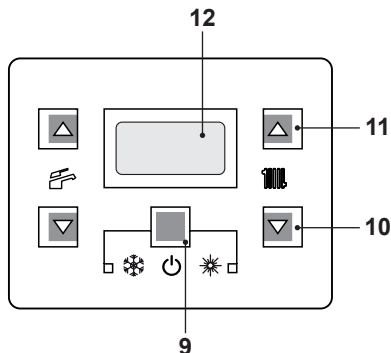
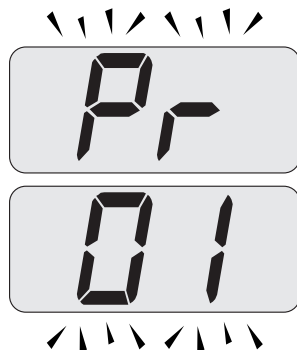
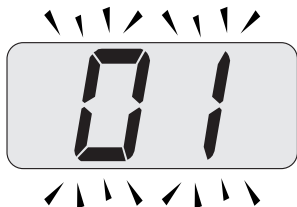

Fig. 8.31
Fig. 8.32
Fig. 8.33
- Enter the "programming mode" by sequentially pressing and holding in keys, 9 - 10 and then 11 (Fig. 8.31) for 10 seconds until the letters **Pr** that alternate with code **01** are displayed on the LCD display, indicating that "parameter 01" (Fig. 8.32) has been activated.
- Press keys 9 and 11 (Fig. 8.31) at the same time until the value of parameter 01 (25=ADVANCE 150V, 26=ADVANCE 180V or 29=ADVANCE 240V) is displayed on the LCD display (Fig. 8.33).
- Press keys 9 and 10 (Fig. 8.31) at the same time to exit without changing the value (return to the parameters list Fig. 8.32).
- Press sequentially keys, 9 - 10 and then 11 (Fig. 8.31) and hold in for 10 seconds to exit the "programming mode".